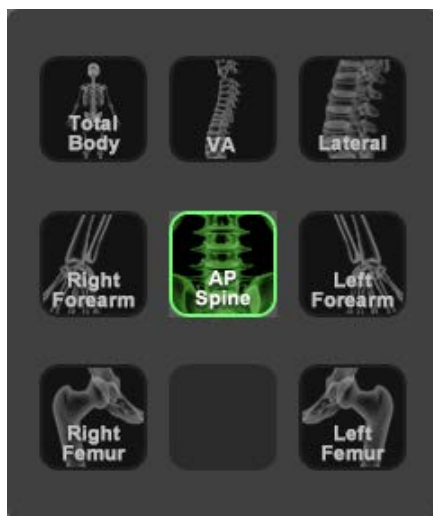

Figure 3 Scanning
- Figure 3 : Scanning in progress.